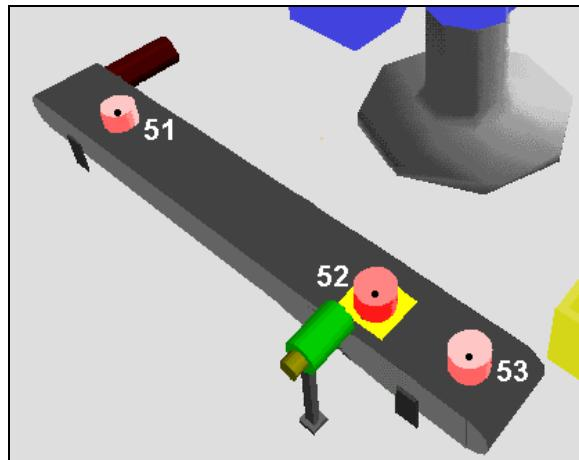

Figure 13-1
- 3** Record the three conveyor positions shown in Figure 13-1